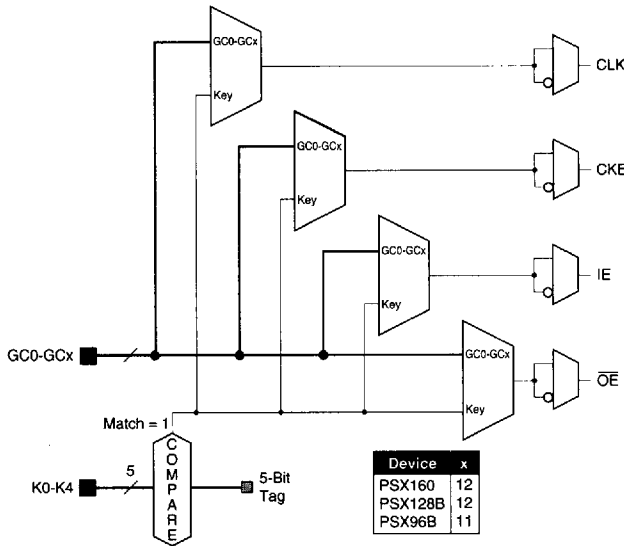

Figure 9: I/O Control
The PSX family has a flexible control structure that gives the user complete control over the behavior of each I/O Port. As shown in Figure 9 and described below, clock (CLK), clock enable (CKE), input enable (IE) and output enable (OE) for each I/O Port can be selected from two different sets of control inputs. The control polarity can be individually selected.